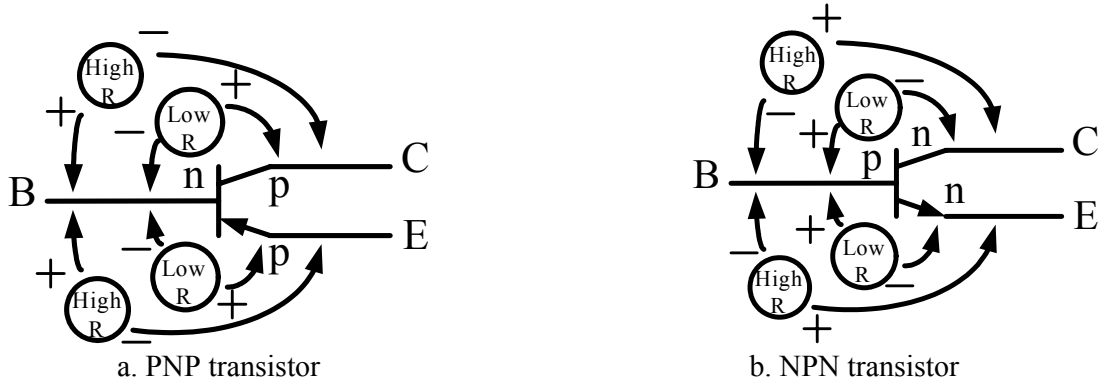

Figure 7.1: Circuit for a transistor check.
- 1) Use a multimeter to check a transistor by measuring forward and reverse resistances of P-N junction between base (B) and collector (C) and between base and emitter (E). If both junctions are good, a transistor condition is good.
- 2) If it is not known which pin is collector or emitter, we can check a transistor as shown in Figure 7.1. We can then find if a transistor is good or bad and NPN or PNP type.